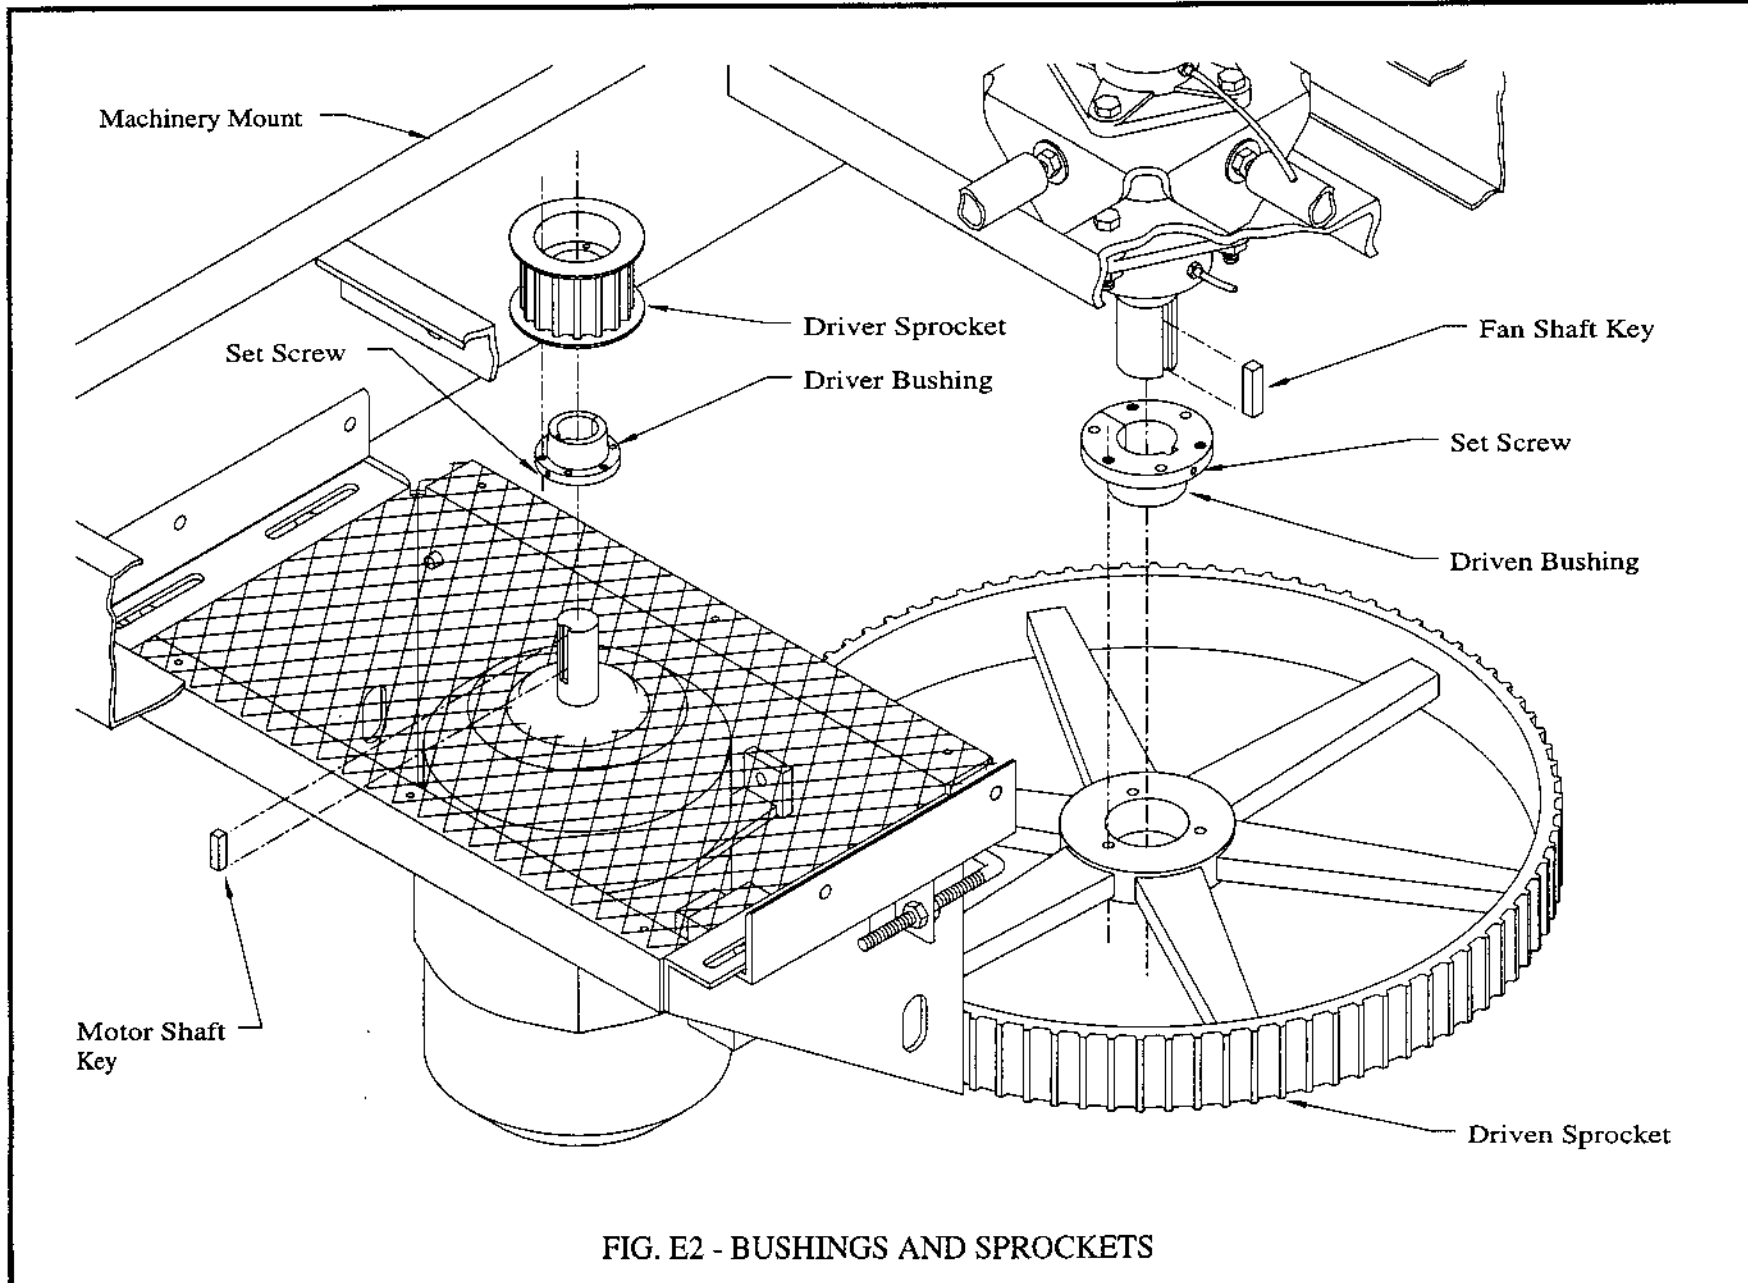

FIG. E2 - BUSHINGS AND SPROCKETS
3. Install both sprocket bushings (or sheave bushings, as required), with keys, onto shafts and tighten set screws over keys. See Fig. E2. See "DRIVE ASSEMBLY" section of the Parts List to set vertical location of large sprocket bushing.